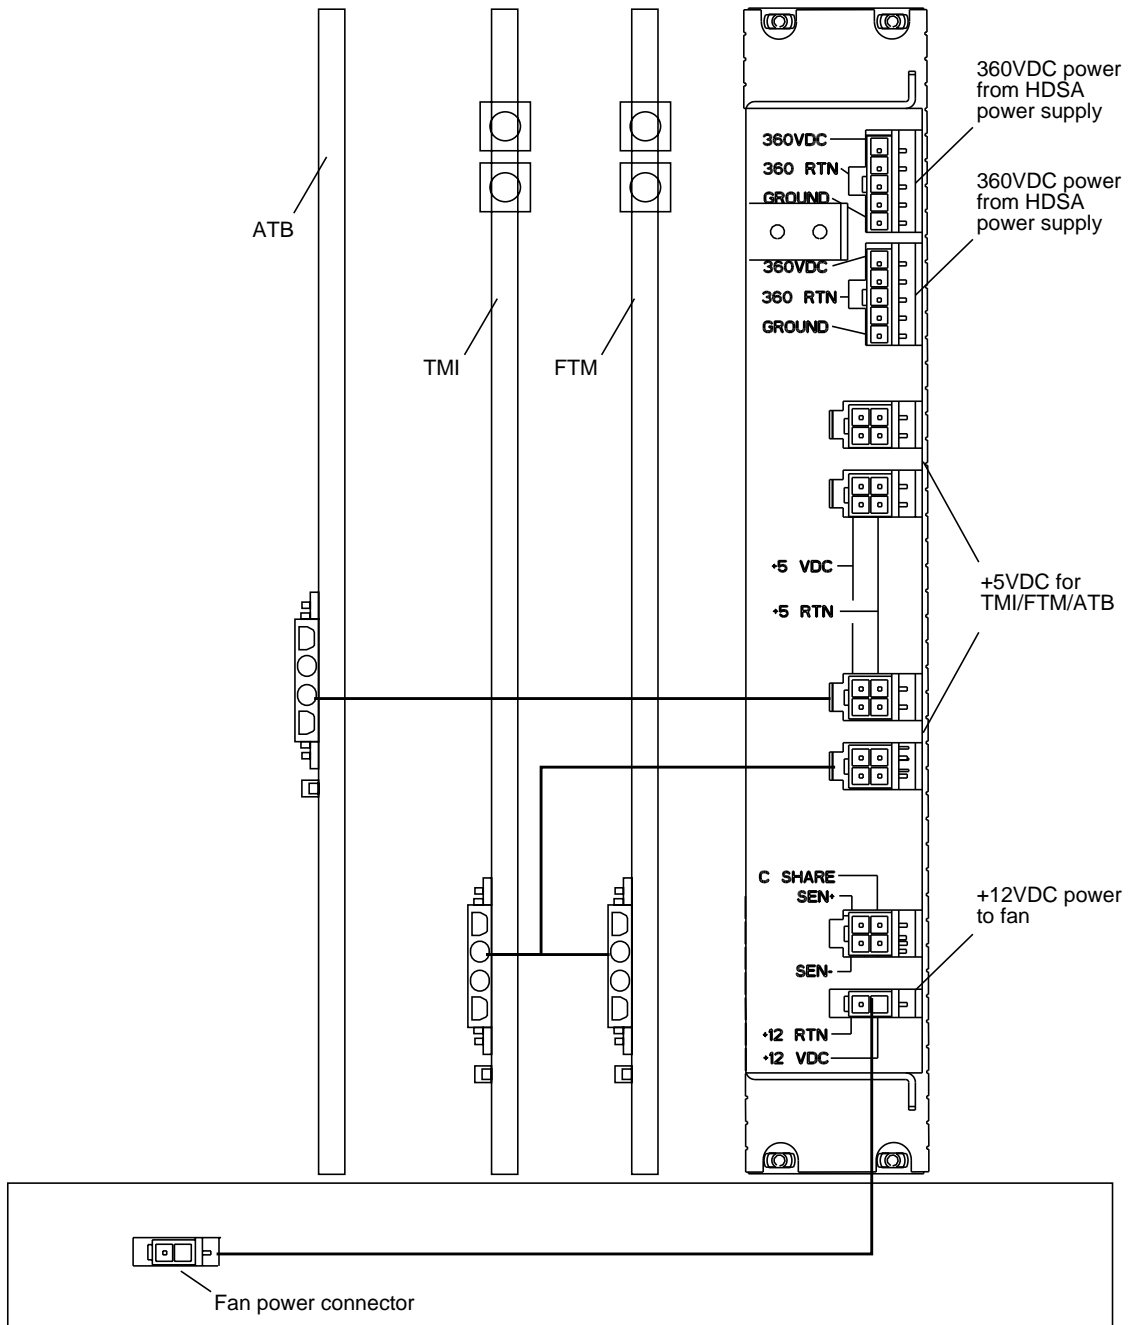
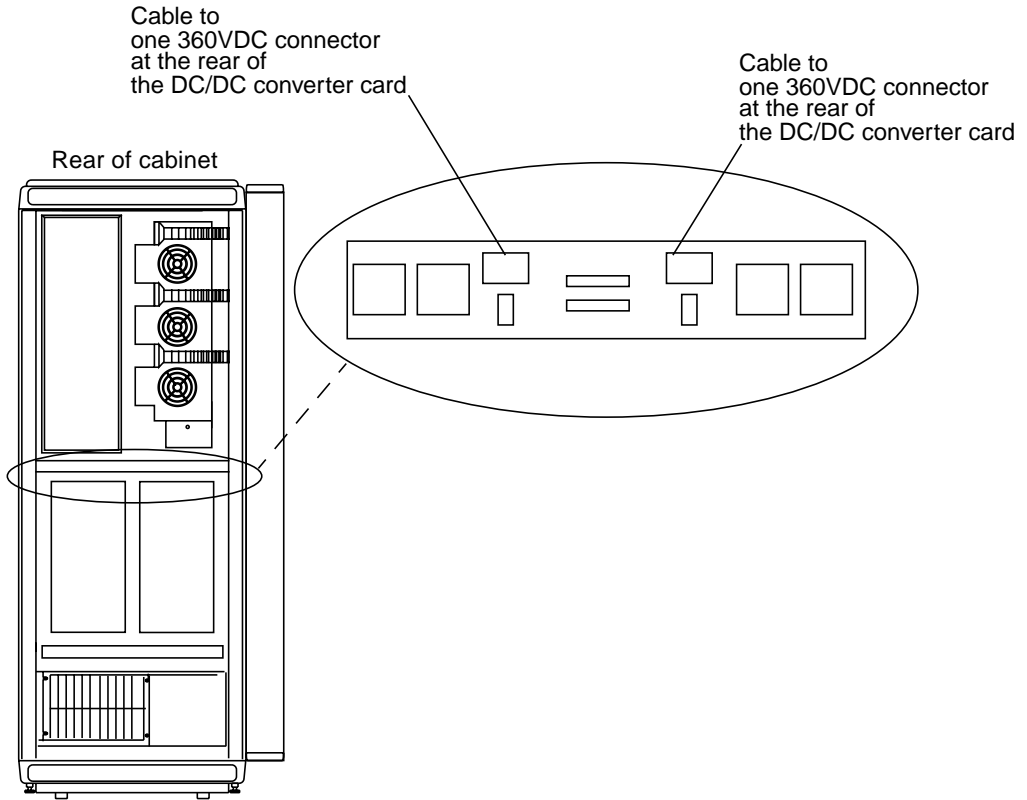

FIGURE 5-6 Power Connection Diagram
FIGURE 5-7 HDSA Power Supply Connections
FIGURE 5-6 is a power connection diagram. You need the following power cables:
1. **Two cables providing redundant power for the DC/DC converter card are located at the rear of the high density storage array (HDSA) power supply. See FIGURE 5-7. (These dual-plug cables also provide power to the disk drives in the HDSA drawer.) Connect one five-pin plug to the top connector at the rear of the DC/DC converter card. Connect the other five-pin plug to the connector just below the top connector at the rear of the DC/DC converter card. See FIGURE 5-6.**
7. **Check the connections and Make sure the DC/DC converter Enable (ON)/Disable (OFF) switch is set to Disable (OFF).**